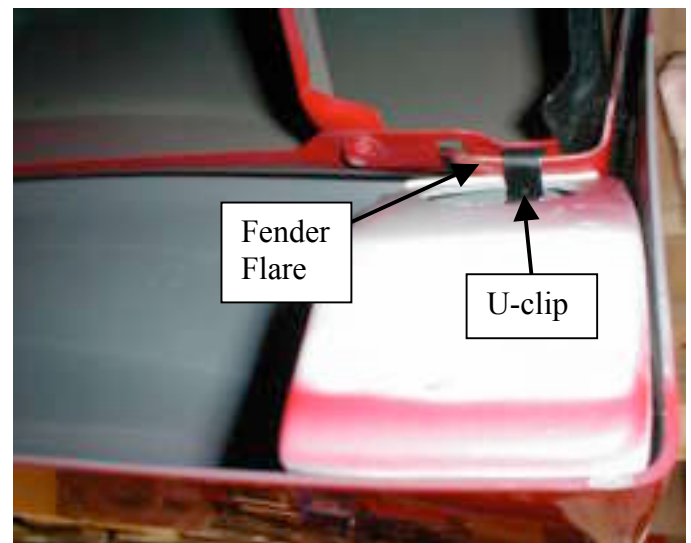

Figure 8
6. Remove the part and apply adhesion promoter to the area where the trim-beading adhesive will come in contact with the bed and where the adhesive will attach (Refer to Figure 8).
11. Use a U-clip to attach the part to the bottom of the fender flare (Figure 8).